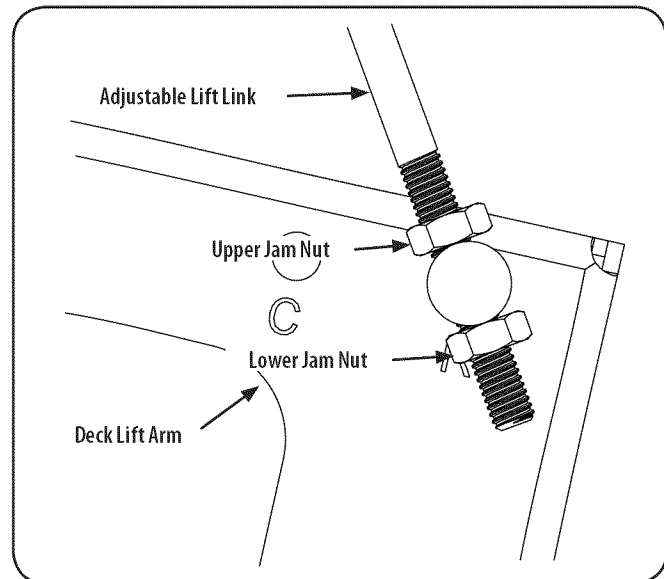

Figure 20
3. Loosen the lower jam nut on the adjustable lift link attached to the deck lift arm to lower the deck and tighten the upper jam nut to secure the deck in place, loosen the upper jam nut then tighten the lower jam nut to secure the deck in place. See Figure 20.